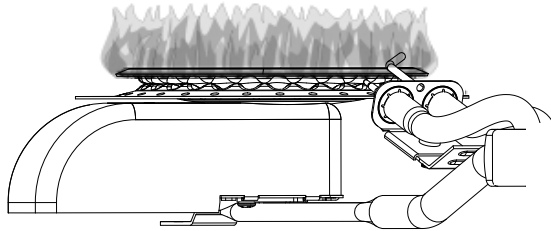

FIGURE 19.
Inspect the burner flames through the viewport and compare them to the drawings in Figure 19. A properly operating burner should produce a soft blue flame. Blue tips with yellow inner cones are satisfactory. The tips of the flame may have a slight yellow tint. The flame should not be all yellow or have a sharp blue-orange color. Contaminated air may cause an orange colored flame. Contact a qualified technician if the flame is not satisfactory.
- "Wake Up" the temperature indicators by holding down both "COOLER" and "HOTTER" temperature adjustment buttons at the same time for one second (See Figure 19). The display will light up. The display will only remain on for 30 seconds if no further buttons are pressed. After 30 seconds the control will go back to "Sleep" mode.